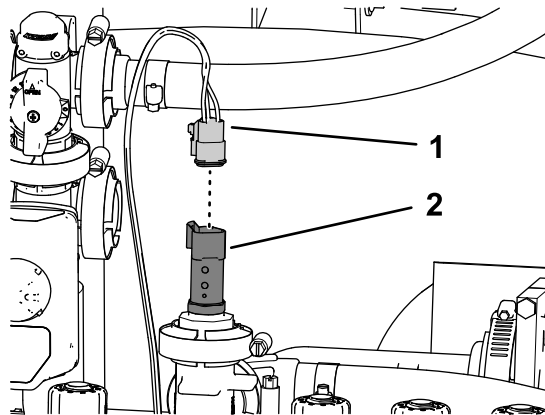

Figure 131
1. Insert the 3-socket connector 61 cm (24 inch) branch of the kit wire harness labeled PRESSURE TRANSDUCER GREEN WEDGE into the 3-pin connector of the pressure transducer (Figure 131).